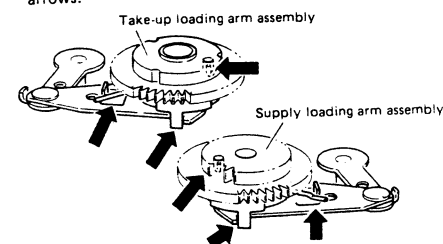

Fig. 2-8 Loading arm assembly (1)
1. Set up the loading arm assembly correctly as shown in Fig. 2-8. Pay careful attention to the points indicated by arrows.